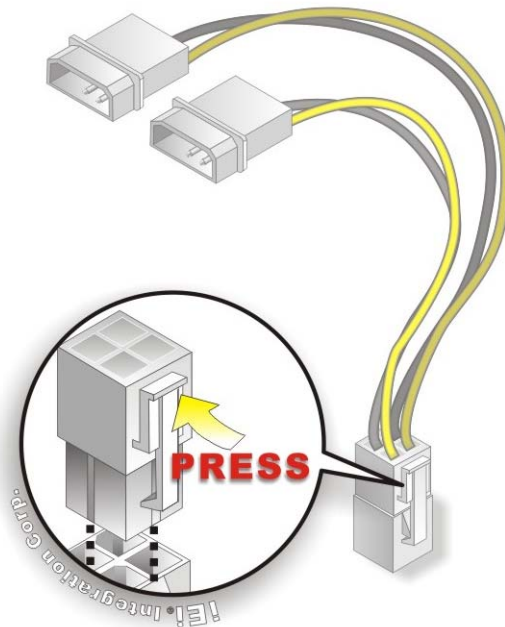

Figure 4-12: Power Cable to Motherboard Connection
Step 2: **Connect the Power Cable to the Motherboard.** Connect the 4-pin (2x2) Molex type power cable connector to the AT power connector on the motherboard. See Figure 4-12.